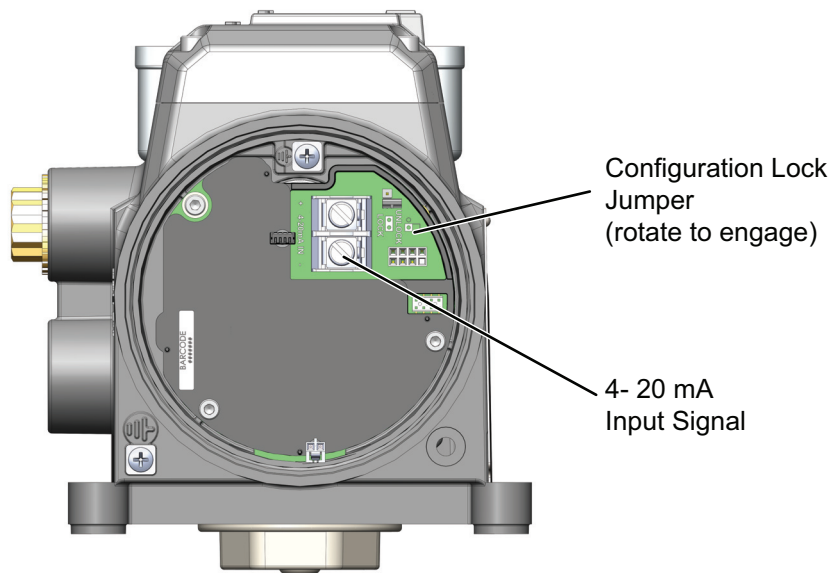

Figure 17 Connections to Main Electronics Module (via Terminal Board)
5. Locate the correct terminal block on the terminal board (see Figure 17).